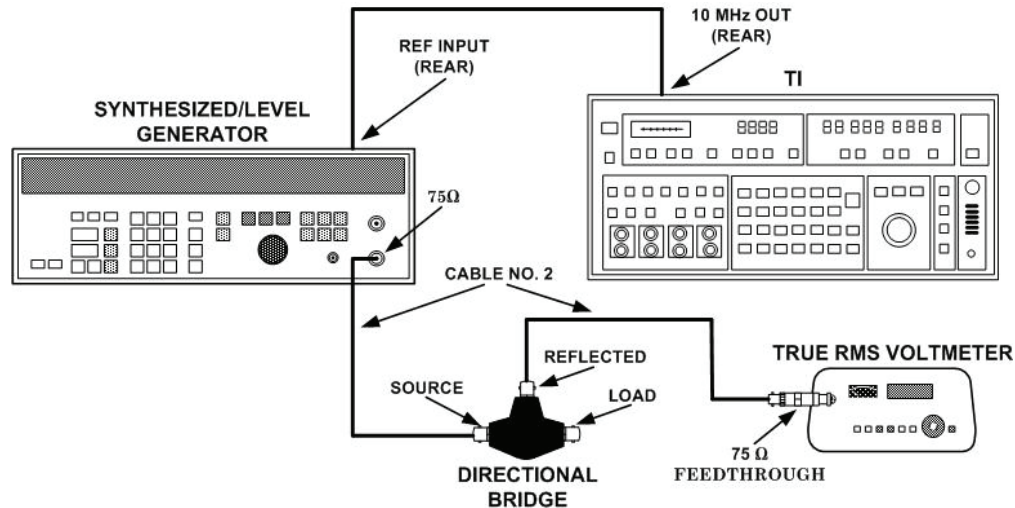

Figure 2. Return loss equipment setup.
- (1) Connect equipment as shown in figure 2.